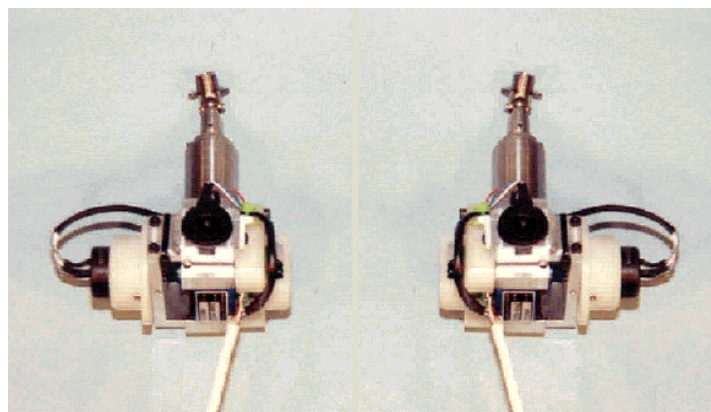

Figure 10.6- Left and Right DGSP assemblies
5. Identify the left and right DGSP units. Note that the left and right units are assembled differently. The difference involves the position of the rotary potentiometer #1 in the final mounted position. On their perspective sides, the #1 rotary potentiometers are facing upward on the yoke and gimbal assembly. If facing downward, they will interfere with the side support brackets. **Figure 10.6** shows the left and right DGSP units for reference. Refer to Section 17 for further detail on the DGSP units.